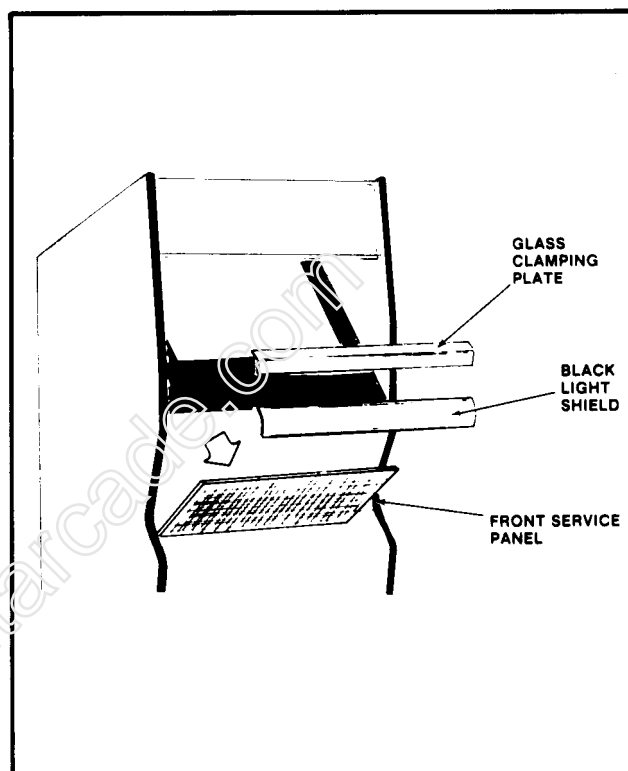
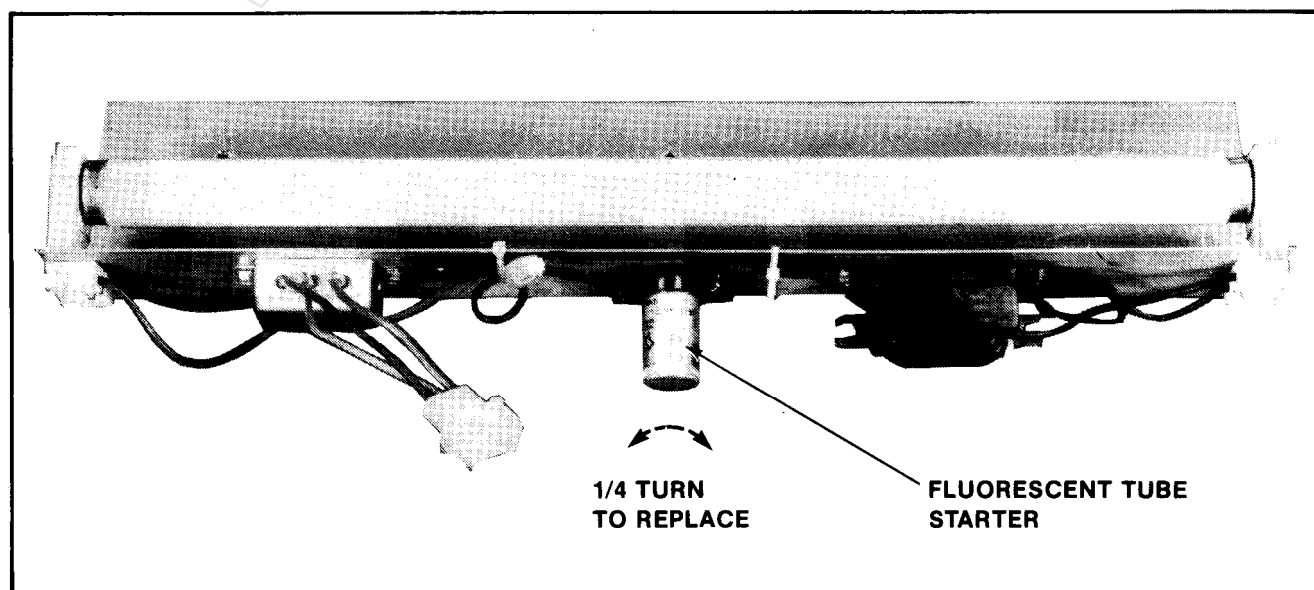

Figure 2-54 Removing the Front Service Panel - Upright
Figure 2-55 Replacing the Fluorescent Tube Starter - Upright
- ☐ Tilt it back to clear the black light and lift it up and out as shown in Figure 2-54.
**WARNING:** If you drop a fluorescent tube and it breaks, IT WILL IMplode! Shattered glass can fly six (6) feet or more from the implosion. Use care when replacing any fluorescent tube.
- ☐ Replacing the fluorescent light tube starter. See Figure 2-55.